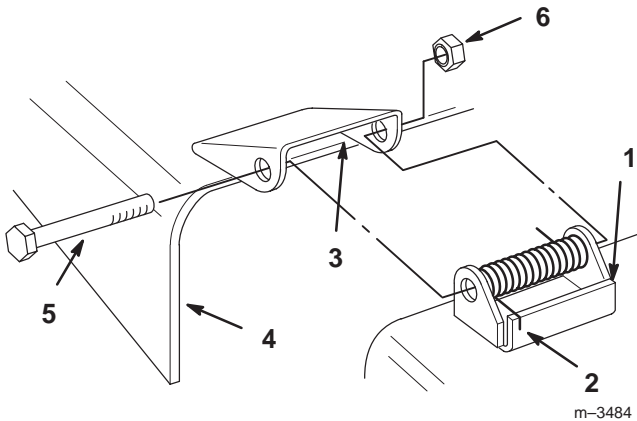

Figure 2
- Place the springs into the brackets on the mower with the hooked ends over the raised back of the bracket (Fig. 2).
- Align the discharge chute with the holes in the brackets and the spring straight ends in the space under the hinge and above the chute (Fig. 2).
- Secure the chute to the bracket with bolts through the discharge chute, springs, and brackets. Secure them with locknuts (Fig. 2).